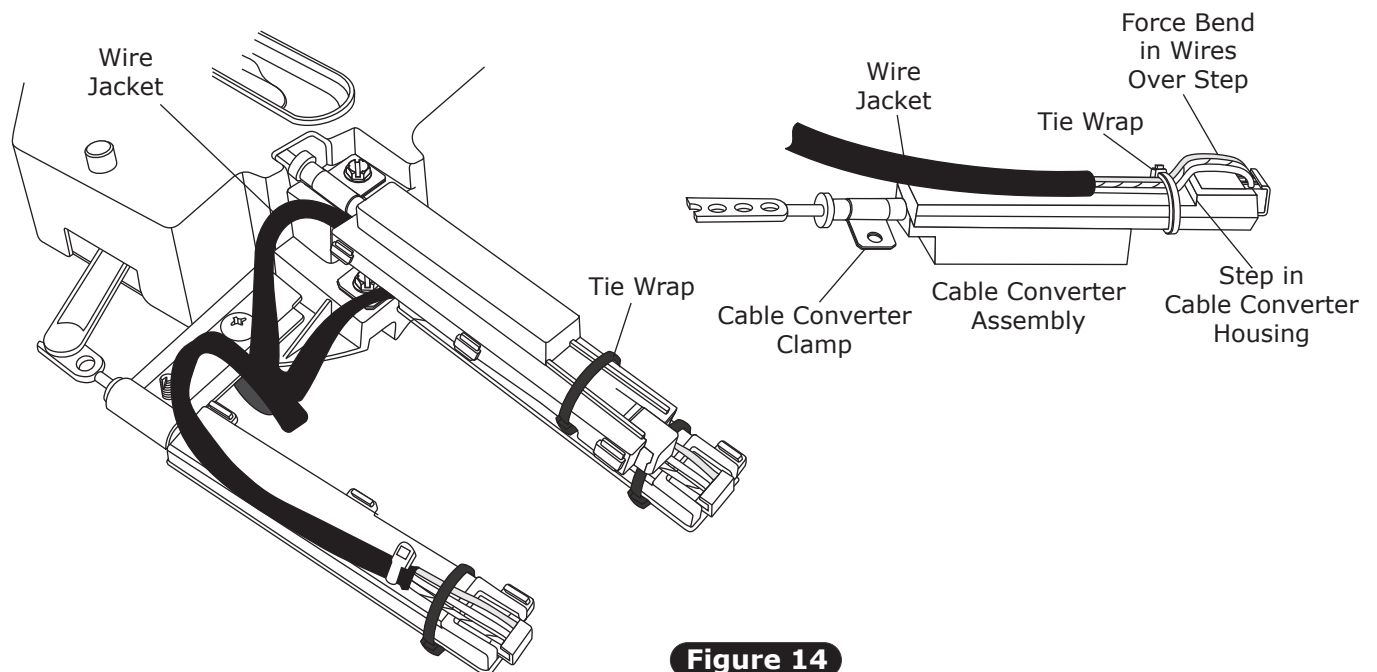

Figure 14
2. Once the wires are correctly plugged into the cable converter assembly, secure the wires to the cable converter assembly using the supplied tie wraps. The tie wrap must be located between the end of the wire jacket and the step in the cable converter housing, forcing a bend in each wire as it passes over the step in the cable converter housing. The head of the tie wrap must fall on the edge of the housing to remain tight. Ensure that the tie wraps are tight enough that the wires cannot move (See Figure 14, below).